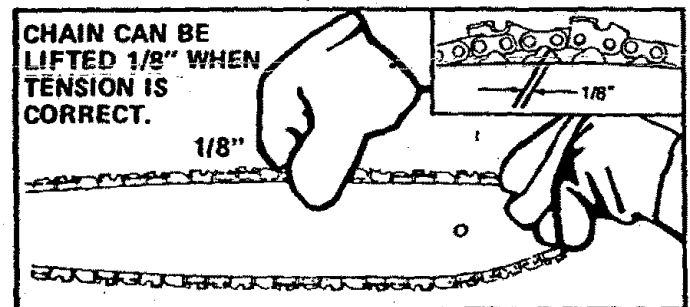

Figure 15
2. Check the tension by lifting the chain from the Guide Bar at the center of the bar. Figure 15.
5. Recheck tension. See Figure 15.